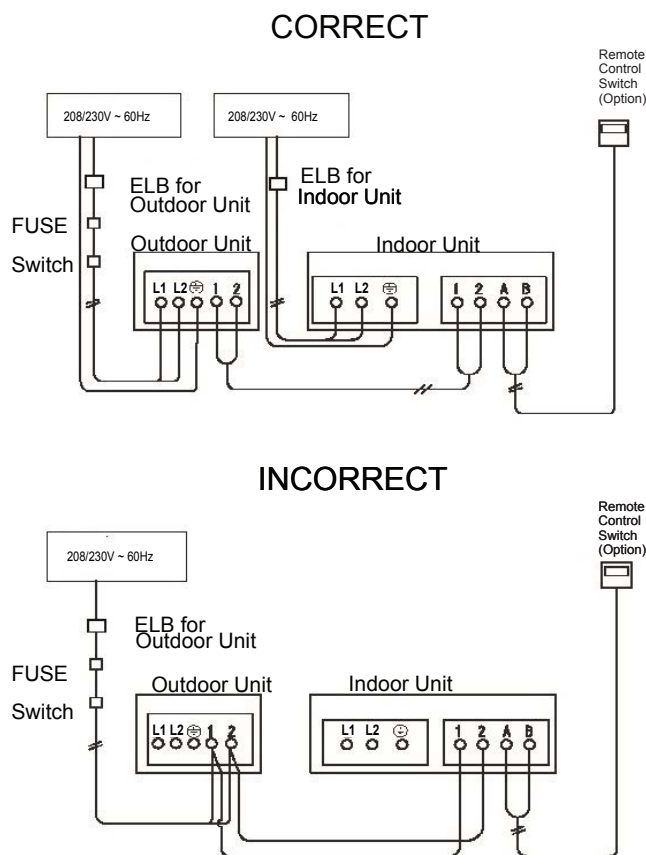

Fig. 6.1 Indoor unit and outdoor unit communication wire connection
- (2) Connect the wires between the outdoor and indoor units to terminals 1 and 2 on the terminal board. If power supply wiring is connected to 1 and 2 of terminal board (TB1), printed circuit board will be damaged. Refer to Fig. 6.1.